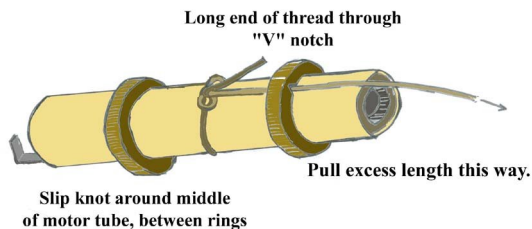

Figure 2
- **Step 2** Tie a slip knot around the center of the engine mount subassembly, as shown in Figure 2, using the Kevlar thread. Push the thread up through the "V" notch, and pull the excess length forward until the loop is firmly against the back of the forward ring. Secure the thread with a layer of thinned glue, and set aside until dry.